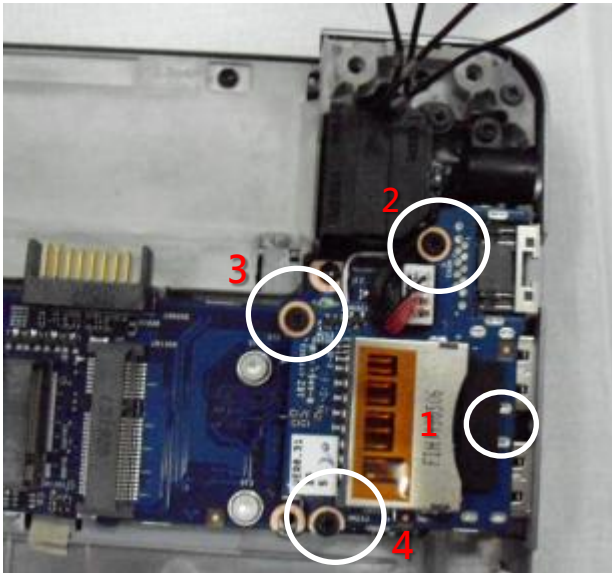

Fig.1
1. Loosen screw (6052B0127701) * 1. (Fig.1)
2. Loosen screw (6052A0035101) * 3 (mark : Δ) (Fig.1)
3. disassembly USB/B. (Fig.1)